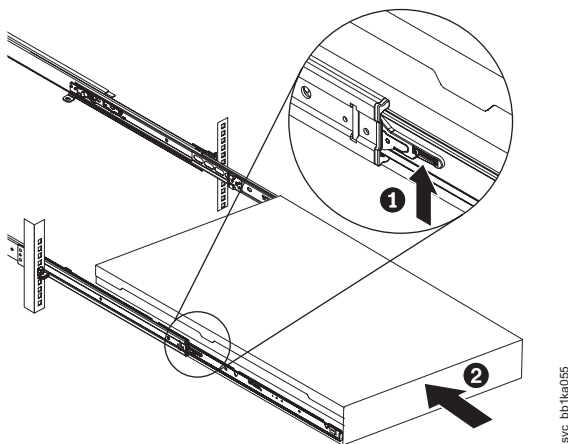

Figure 244. Raising the SAN Volume Controller 2145-CF8 or 2145-CG8 locking levers of the slide rails of the rack
11. Lift the locking levers (**1** in Figure 244) on the slide rails and push the server **2** all the way into the rack until it clicks into place.